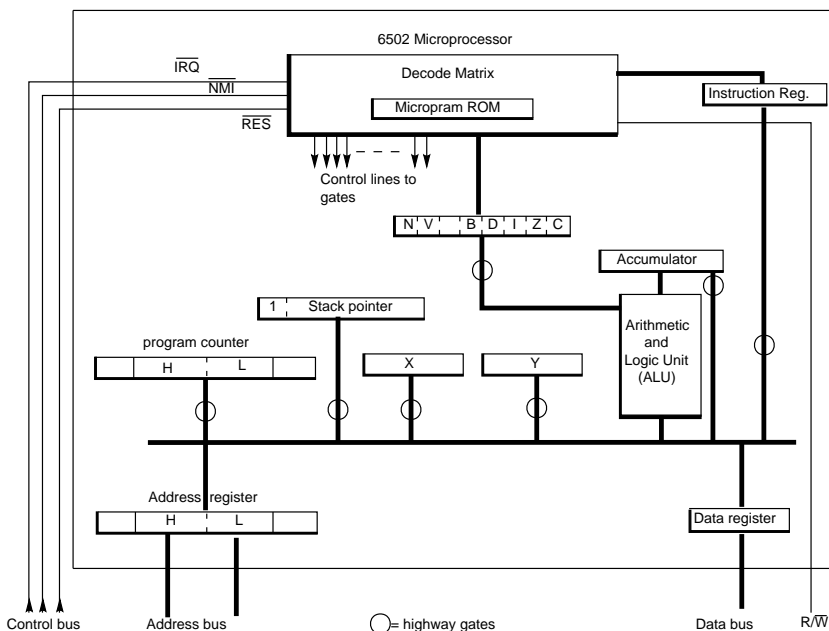

Fig 2.2. 6502 registers and highways
Figure 2.2 shows reasonable, but by no means complete, details of the paths between the various registers. Such paths within the microprocessor are often called highways because they ramify over the chip area to provide a kind of long distance communication.
This register has a supreme role. It is the only one capable of performing arithmetic processing. This is evident from Fig. 2.2 which shows that, in addition to the usual connection to the highway, there is a direct and exclusive link to the Arithmetic and Logic Unit (ALU). It is involved in transfers to and from memory and acts as interim data storage during arithmetic and logic operations. For example, during a simple addition of two numbers (ADC), the first number must pass to the accumulator and is then 'entered' to a holding register within the ALU. The second number then enters A, the addition is carried out and the result sent back to A. Those used to scientific calculators in the Hewlett-Packard range will recognise the inherent Reverse Polish (RP) action.
In any microprocessor, some of the most important registers remain transparent (or at least translucent) to the programmer. That is to say, instructions are not provided which make direct reference to them. In fact, the more important a register, the less likely is the programmer allowed direct access. In the 6502, the unseen registers (refer back to Fig. 2.2) are the Program Counter (PC), the two address registers ADL, ADH and the instruction Register (IR).
Figure 2.2 shows the decode matrix. Its function is to accept the op-code held in IR, decode it, and finally output a pattern of bits on the various gate and timing controls. This pattern will be different for every step in the microprogram. If this function is analysed carefully, we may come to the conclusion that the decode matrix will behave like a miniature computer with a number of fixed programs inside. We can relate IR to the 'program counter'. The op-code is only the starting address of the relevant microprogram. The
'words' read out from the ROM are the bit patterns supplying the various register gates and controls. These patterns will vary for each step of the microprogram. The gate controls are all hard wired to the various registers. This wiring is omitted from Fig. 2.2 to prevent an already complex diagram from becoming incomprehensible.